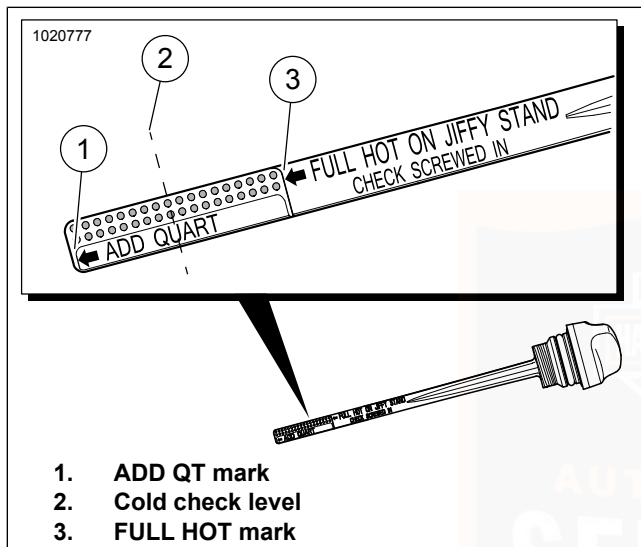

Figure 53. Engine Oil Dipstick
- e. See Figure 53. Check oil level. The correct cold oil level is midway (2) between the ADD QT (1) and FULL HOT (3) marks on the dipstick.
5. Check oil level. Add only enough to bring level midway between the ADD QT (1) and FULL HOT (3).
- e. See Figure 53. Check oil level. Oil level must register between the ADD QT and FULL HOT marks on the dipstick.